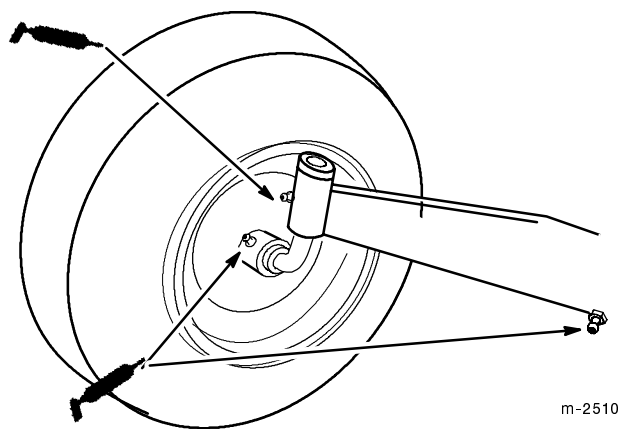

Figure 25
1. Lubricate the front wheels, spindles and tie-rod ends until grease begins to ooze out of the bearings (Fig. 25).
2. Lubricate the front axle pivot (Fig. 25).